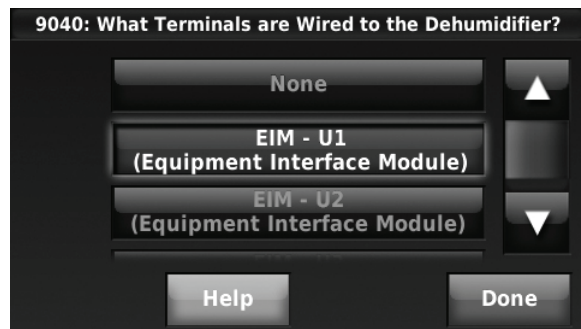

Fig. 249.
- Select the terminals wired to the Dehumidifier. See Fig. 249.